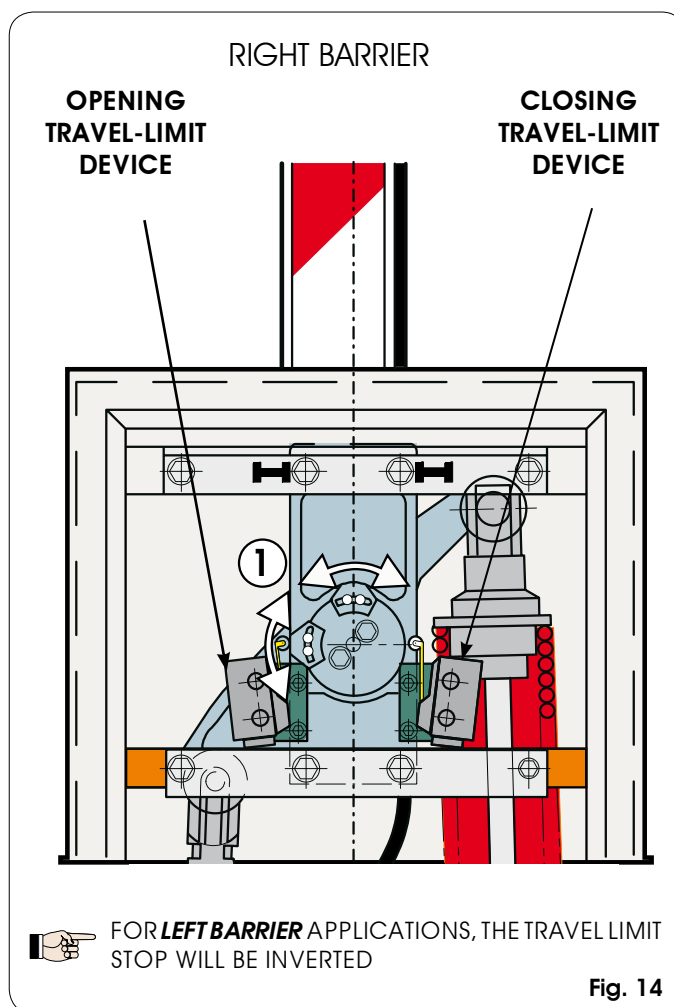

Fig. 14
- 1) Adjust the cams of the travel limit device as shown in Fig. 14 ref. ① by loosening the two Allen screws. To increase the slow down angle, take the cam close to the relevant travel limit device. To reduce the slow down angle, take the cam away from the relevant travel limit device.